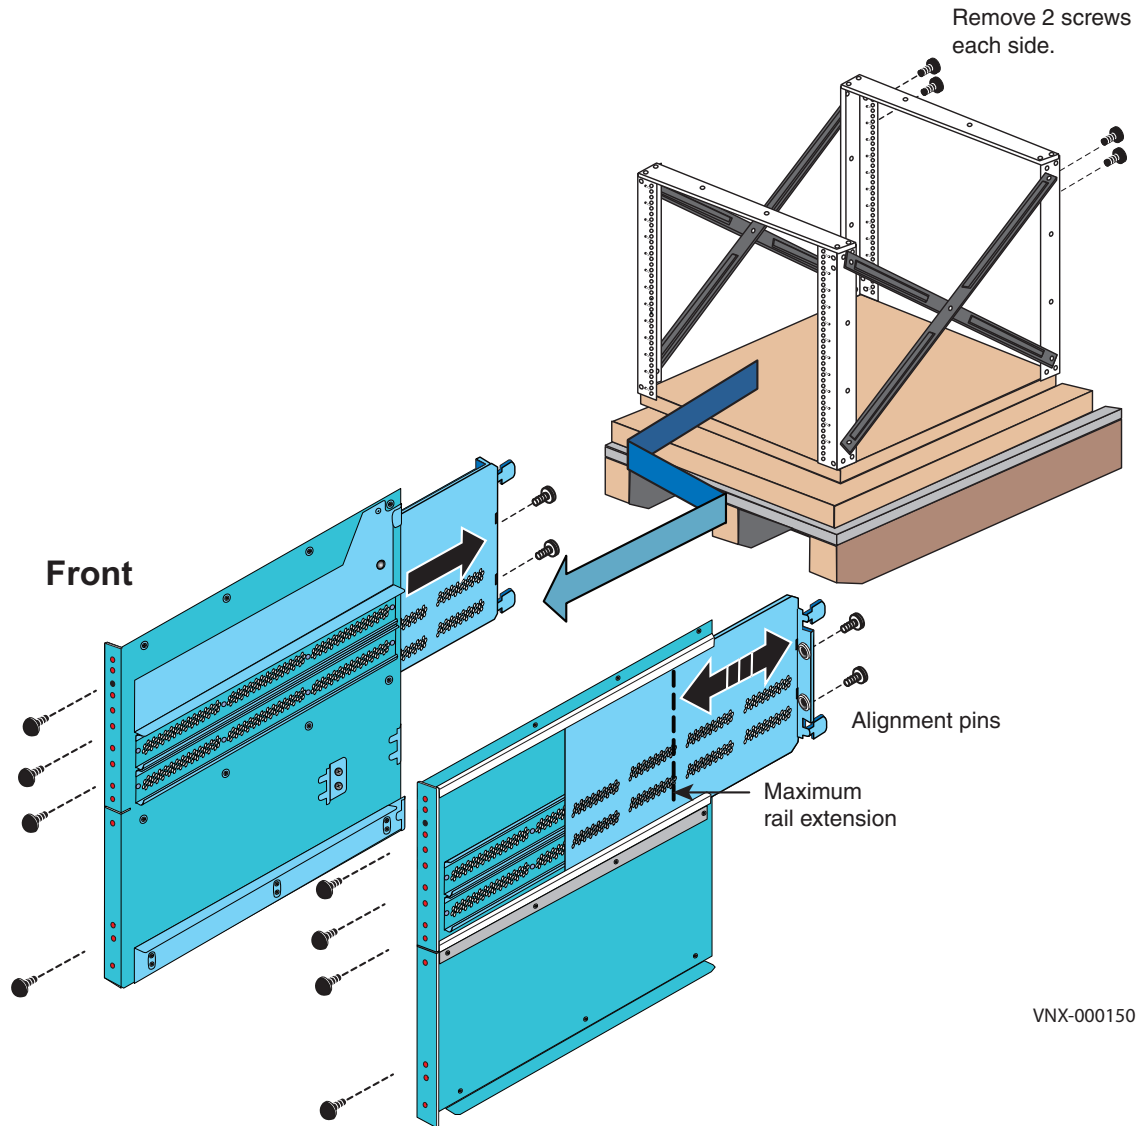

Figure 3 Removing ganged rails
- Unscrew all front and rear screws and remove the 8U ganged rails from the mini-rack as shown in Figure 3 on page 13.